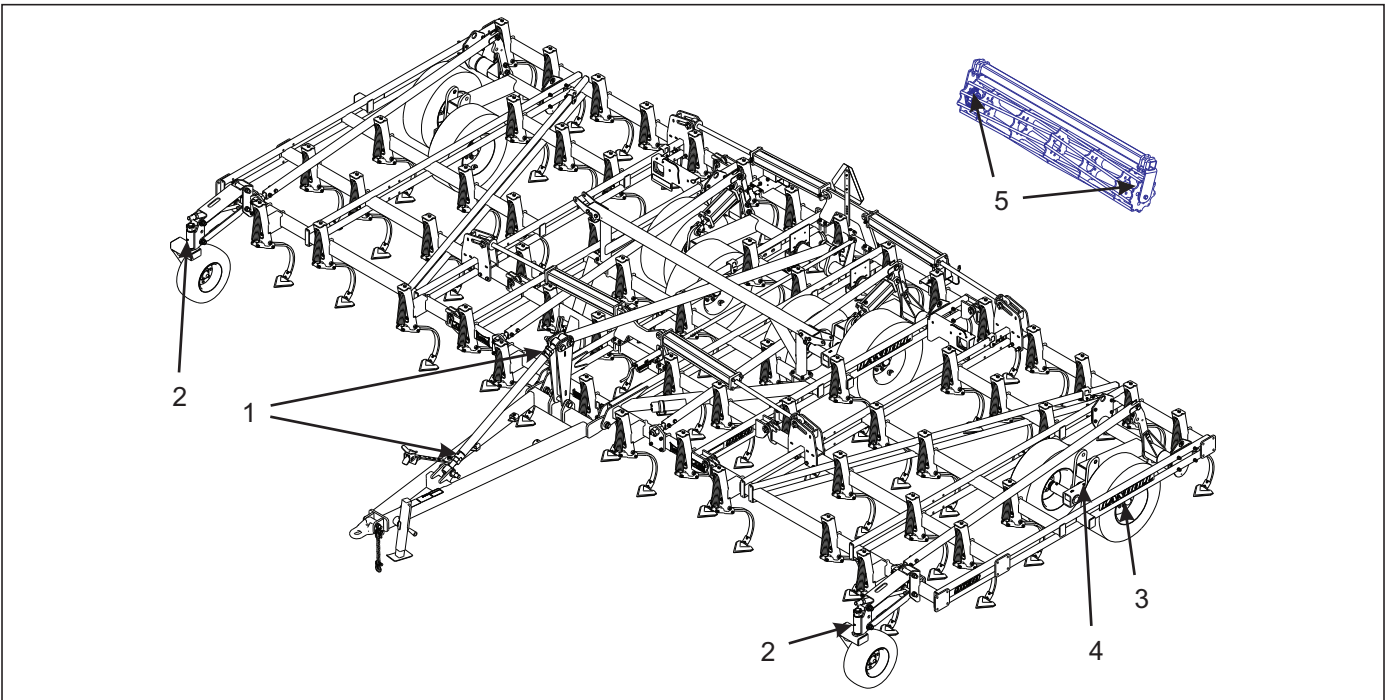

Figure 4-10: Lubrication Points
1. A proper maintenance schedule will insure a long operating life and peak performance. Performing the following lubrication will ensure maximum operating life of the Field Cultivator *See Table 4-1 and Figure 4-10.*